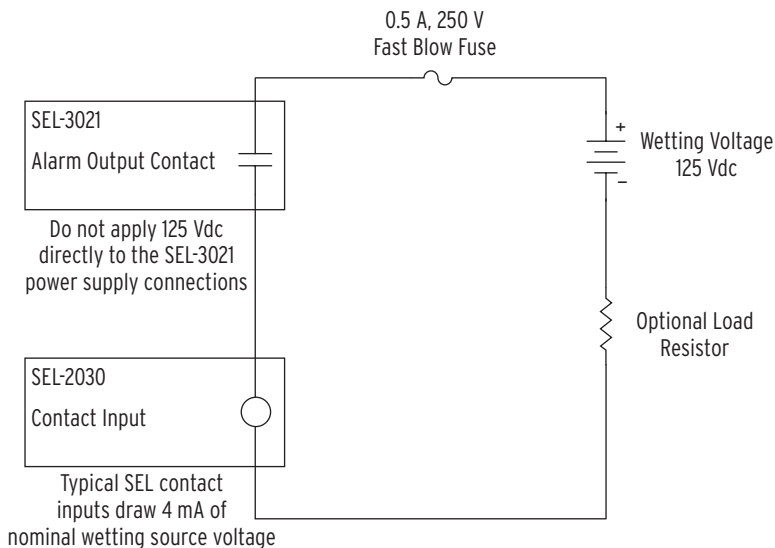

Figure 1.4 Typical Alarm Output Installation
1. Use an external load to limit current to less than 100 mA through the alarm contact. There is no means within the SEL-3021 to limit current through the alarm contact. You must ensure that the external circuit connected to the SEL-3021 limits the current. For example, a typical SEL contact input draws 4 mA. *Figure 1.4* shows a typical connection of a wetting source (125 Vdc), the SEL-3021 solid-state output, an SEL-2030 contact input, and an optional load resistor. In this case, because the contact input impedance limits the current to less than 100 mA, the load resistor is not necessary. If the sensing input does not have a means of limiting the current to less than 100 mA, then you must use a high wattage resistor. Select a load resistor with the proper wattage rating to limit the current. For example, assume the wetting source is 125 Vdc and that the sensing input requires 10 mA to assert. You can use the following calculation to determine the load resistor: $125 \text{ Vdc} / 10 \text{ mA} = 12.5 \text{ k}\Omega$. Calculate the minimum wattage: $(10 \text{ mA})^2 \cdot 12.5 \text{ k}\Omega = 1.25 \text{ W}$. You would typically double this parameter to 2.5 W to ensure proper operation over temperature and life. You should verify proper derating with the resistor data sheet.
Figure 1.4 shows a typical alarm output installation.